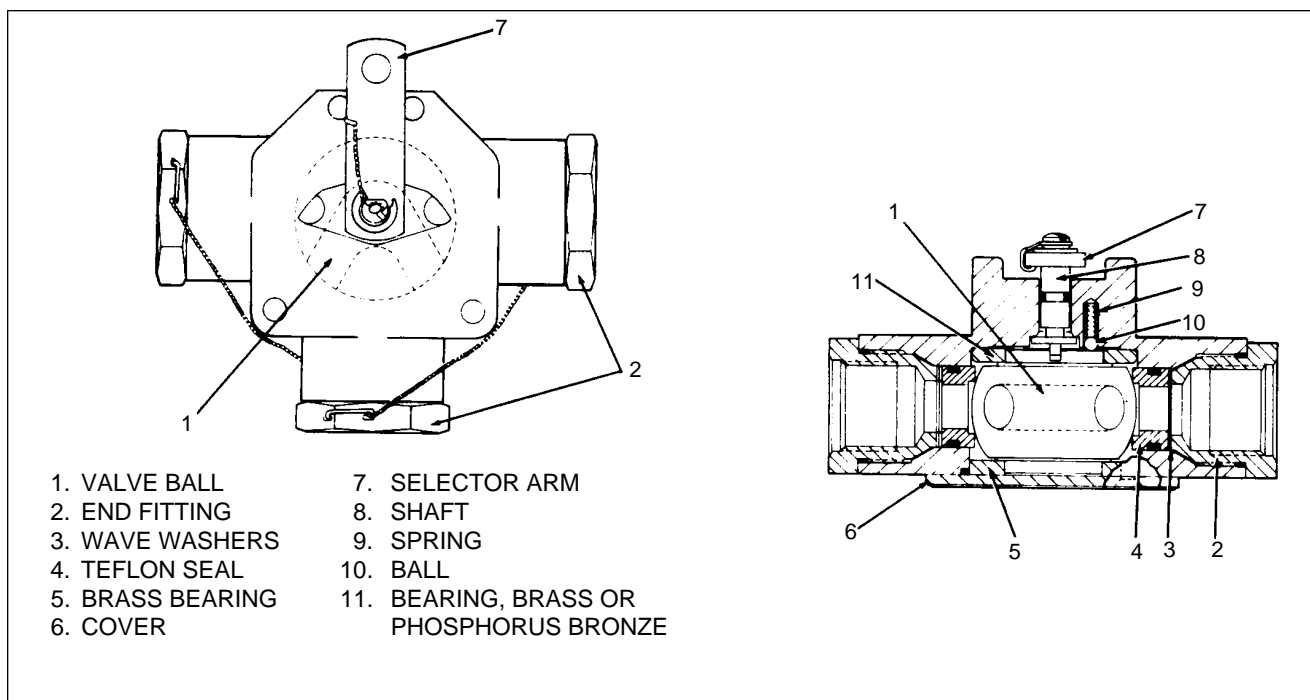

Figure 28-6. Fuel Selector Valve
DISASSEMBLY OF SELECTOR VALVE (Refer to Figure 28-6)
ASSEMBLY OF SELECTOR VALVE (Refer to figure 28-6)
**REFER TO FIGURE 28-6, FUEL SELECTOR VALVE, FOR
5. Install the three teflon seals, wave washers and end fittings. Safety wire the fittings to each other as shown in Figure 28-6.